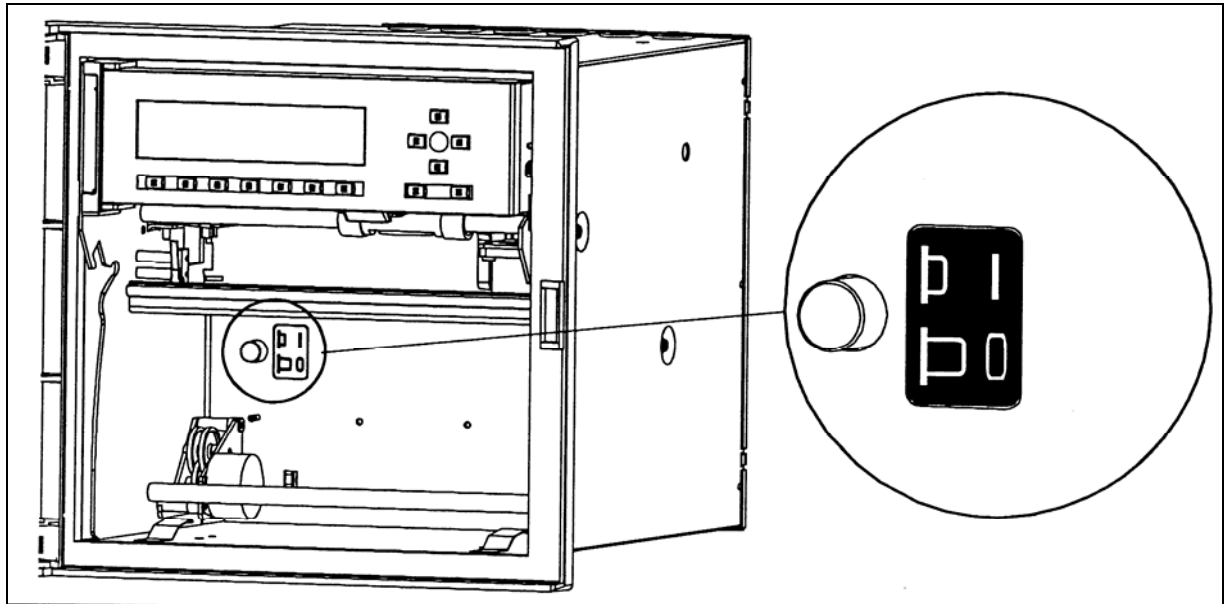

Figure 2-1
3. Turn OFF the switch. (See Figure 2-1)
44. Turn ON the switch. (See Figure 2-1).